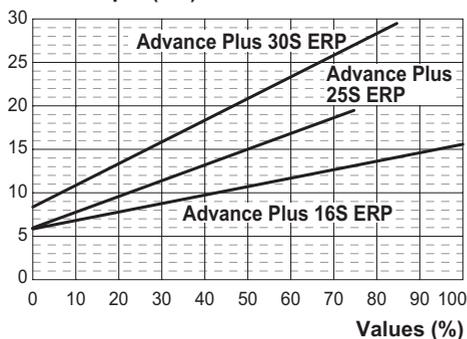
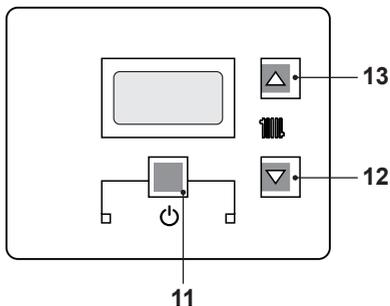
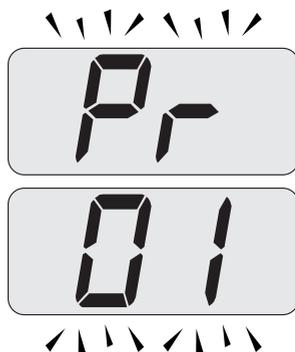
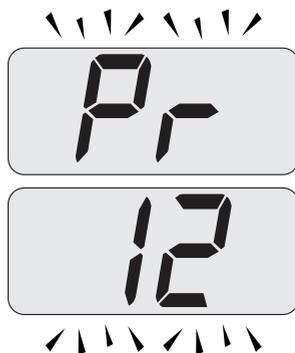

Fig. 7.44
Fig. 7.45
Fig. 7.46
Fig. 7.47
Refer to Fig. 7.44 and determine the correct Value appertaining to the output required for the central heating requirement.
- Enter the "programming mode" by pressing keys 11 - 12 - 13 (Fig. 7.45) for 10 seconds at the same time until the letters **Pr** that alternate with code **01** are displayed on the LCD display, indicating that "parameter 01" (Fig. 7.46) has been activated.
- Scroll the various parameters using keys 12 or 13 until the letters **Pr** that alternate with code **12** are displayed on the LCD display, indicating that "parameter 12" (Fig. 7.47) has been activated.
- Press keys 11 and 13 (Fig. 7.45) at the same time until the value of parameter 12 (99=Advance Plus 16S ERP - Advance Plus 25S ERP - Advance Plus 30S ERP) is displayed on the LCD display (Fig. 7.48).
- It is possible to modify parameter using keys 12 or 13 (Fig. 7.45) (Refer to Fig. 7.44 and determine the correct Value appertaining to the output required for the central heating requirement.).
- By pressing key 11 (Fig. 7.45) confirmation of the inserted value is obtained.
- Press keys 11 and 12(Fig. 7.45) at the same time to exit without changing the value (return to the parameters list Fig. 7.47).
- Press keys 11 - 12 - 13 (Fig. 7.45) at the same time for 10 seconds to exit the "programming mode".